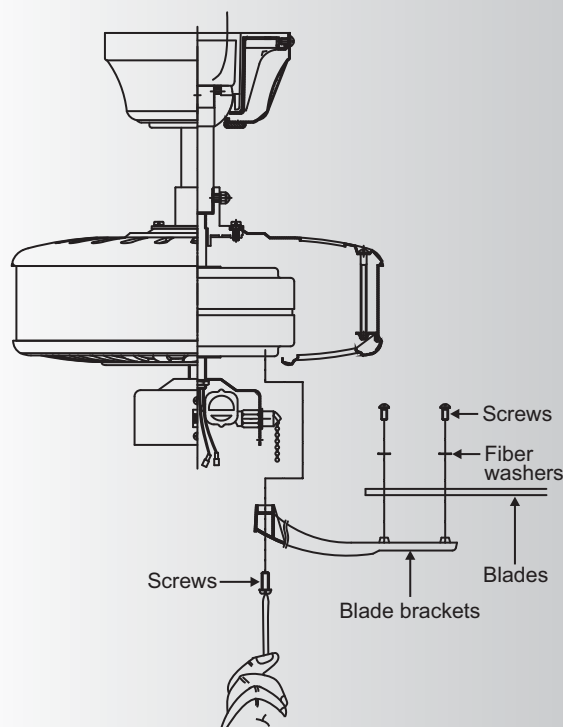

Fig. 15
Step 1. Attach a blade to a blade bracket using the screws and fiber washers provided. (Fig. 15)
Step 2. Attach each blade assembly to the motor using the "Pre-Installed" mounting screws in the blade bracket. (Fig. 15)